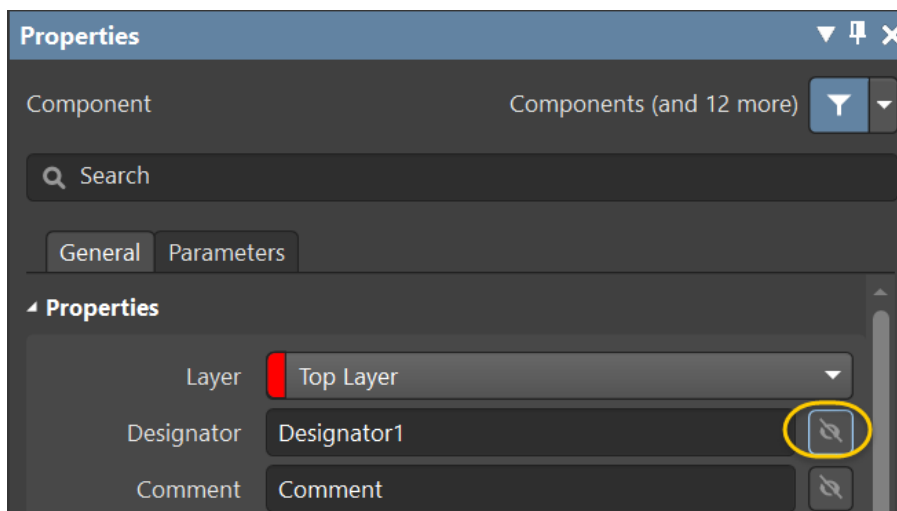

Figure 22. Hide footprint designator
49. Click on the eye icon next to the *Designator* field to hide it, as shown in Figure 22. You will notice that the `Designator1` value will no longer be visible in the PCB.